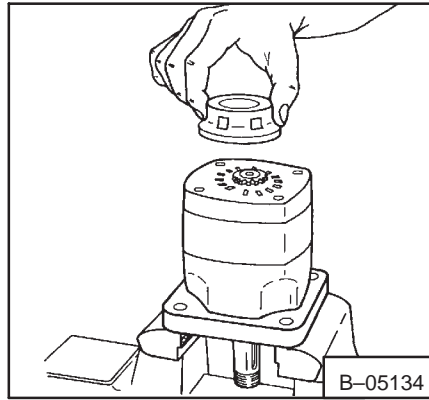

Fig. 3-43 Removing The Valve
12. Remove the valve (Fig. 3-43).